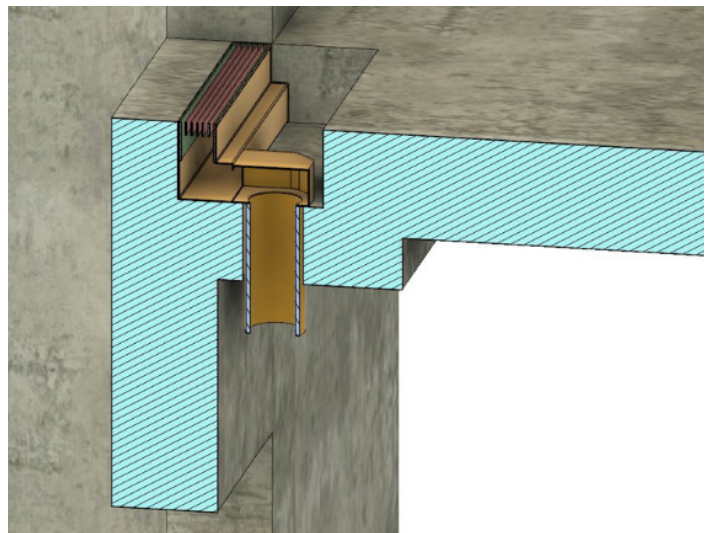

Figure 3: Install drain into threshold void
4. Install the drain within the void and anchor to the adjacent concrete (Figure 3). Consider the finished floor level when installing. Some drain models have an adjustable grate height while other models do not allow for vertical adjustment of the grate height.